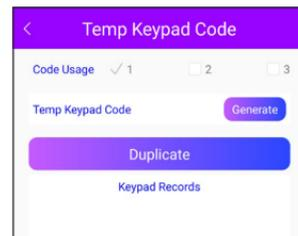

Fig. 26
Step 3. Code Usage limits the number of times a keypad code can be used: 1 for one-time use, 2 for two-time use, and so on. Set the number of uses (Code Usage) for this passcode, between 1 and 3, then tap Generate (Fig. 26).